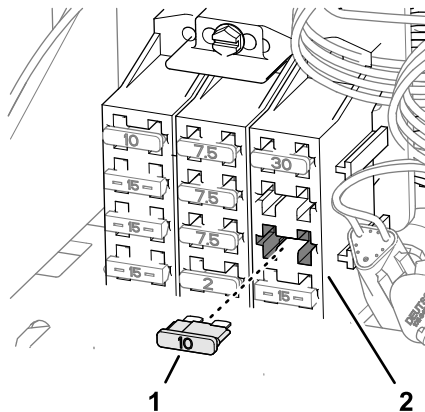

Figure 81
4. Insert the fuse (10 A) into the fuse-block socket (Figure 81) for the options power circuit that you used in step 1.